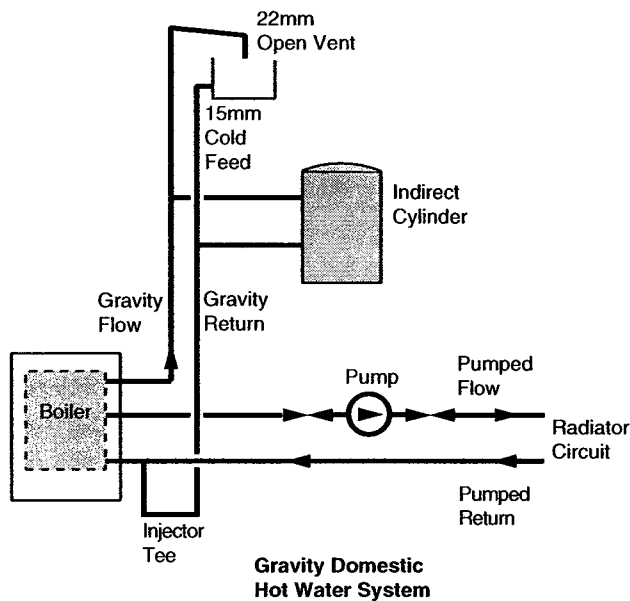

Fig. 4
3.7 Pumped Heating & Gravity Hot Water (Fig. 4)